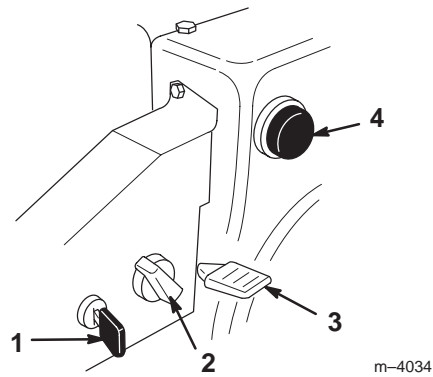

Figure 16
- **Ignition Switch** (Fig. 16)—Insert the key before starting the engine. To stop the engine, remove the key.
- **Choke** (Fig. 16)—Rotate the choke clockwise to the *On* position to start a cold engine. As engine warms up, gradually rotate the choke counterclockwise to the *Off* position.
- **Throttle** (Fig. 16)—Move the throttle upward to increase the engine speed; move it downward to decrease the engine speed. Move the throttle to the *Stop* position to stop the engine.
- **Primer** (Fig. 16)—Press the primer to pump a small amount of gasoline into the engine for improved cold-weather starting.
2. Remove the key from the ignition switch (Fig. 16).
3. Pull the choke knob off (Fig. 16).
5. Rotate the choke (Fig. 16) to the *On* position.
6. Insert the ignition key (Fig. 16).
7. Cover the hole in the center of the primer (Fig. 16) with your thumb and push in the primer 3 times, pausing a moment between pushes.
10. After the engine starts, immediately rotate the choke (Fig. 16) to the $3/4$ position. As the engine warms up, rotate the choke to the $1/2$ position. When the engine warms up sufficiently, rotate the choke to the *Off* position.